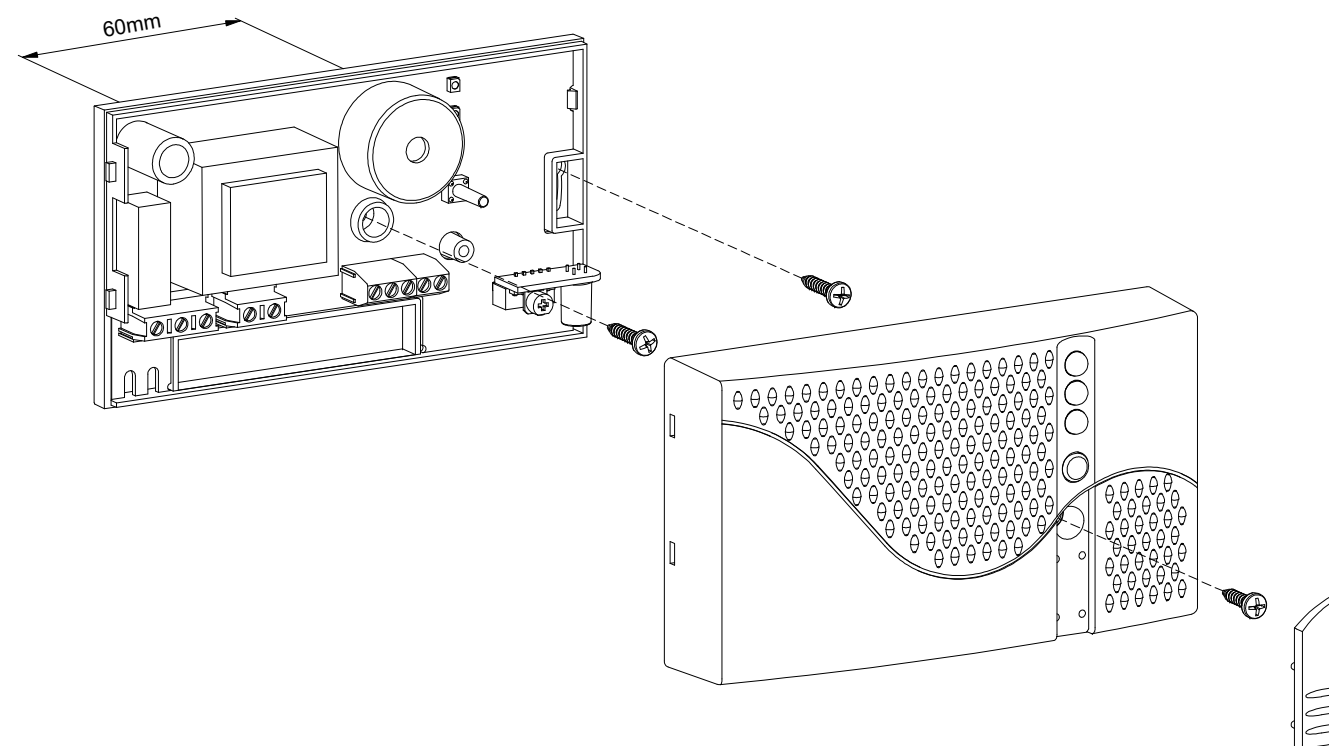

Fig. 2: Installation example of SEGUGIO *plus* -
3. Remove the detector's panel as shown in Fig. 2.